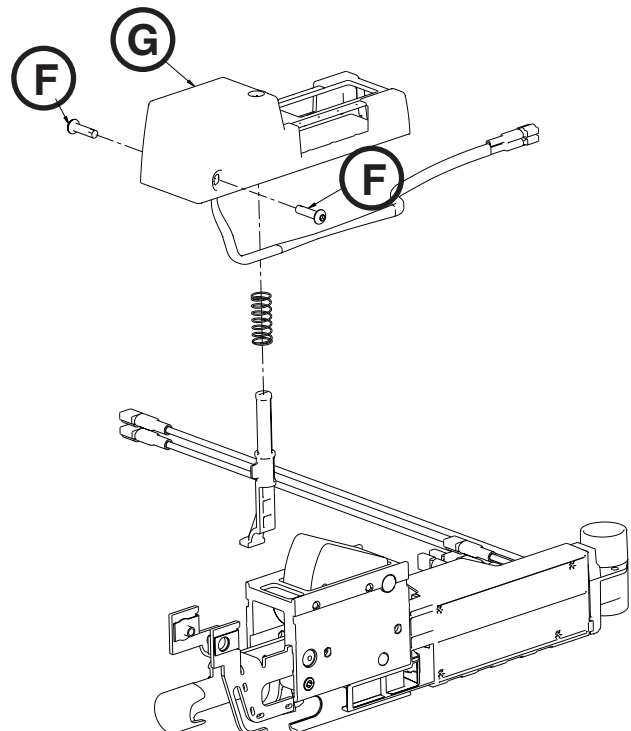

Figure 102
13. Using a 1/8" hex wrench, remove the two button head cap screws (F) that secure the anchor housing assembly, head end to the anchor pawl assembly and remove the anchor housing assembly (G) (Figure 102).